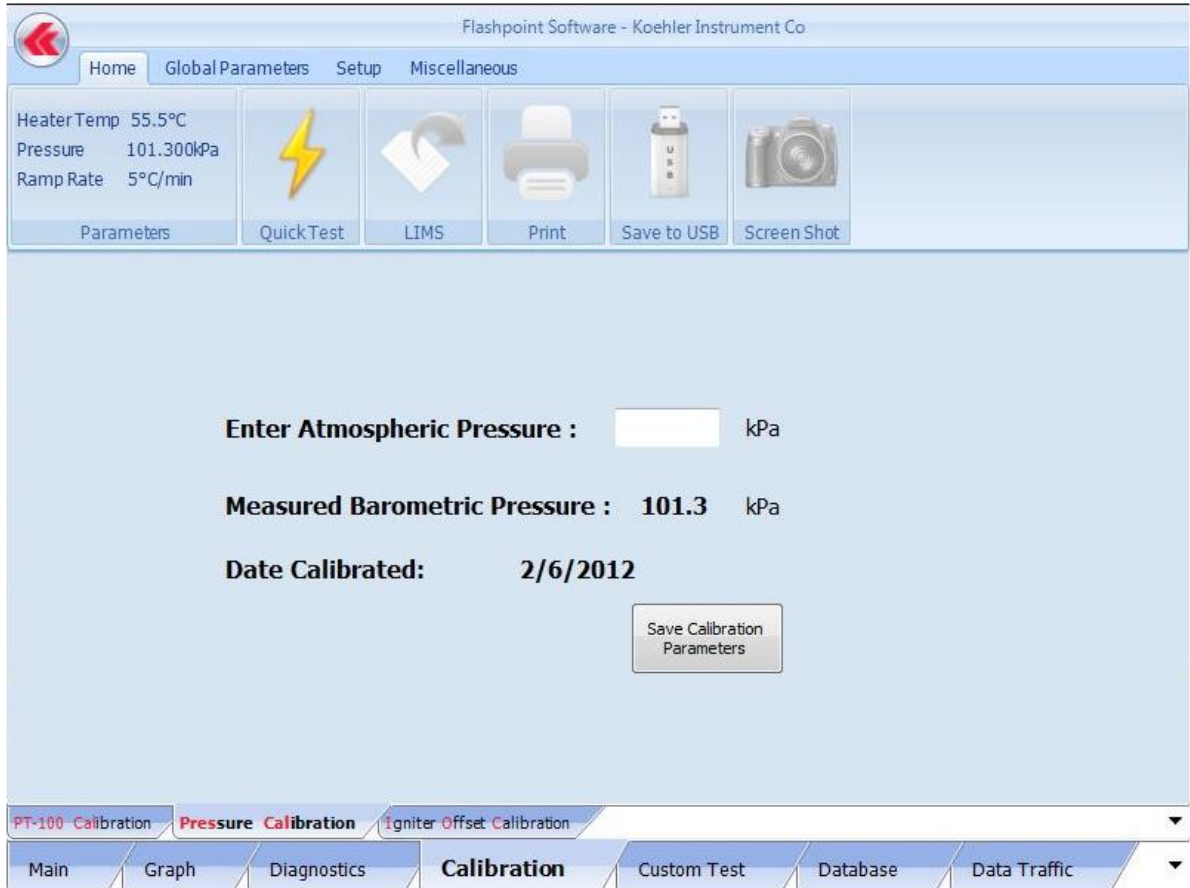

Figure 18: Calibration Screen_Pressure Calibration
- b. **Pressure Calibration** - The Flash Point Analyzer is equipped with an Atmospheric Barometric Pressure Correction Feature. As pictured in **Figure 18** below the user can **Enter Atmospheric Pressure** in Kilopascals (kPa) into the empty field. The **Measured Barometric Pressure** is determined by the analyzers integrated barometer. Clicking Save Calibration Parameters will enter the Pressure Correction and update the **Date Calibrated**.